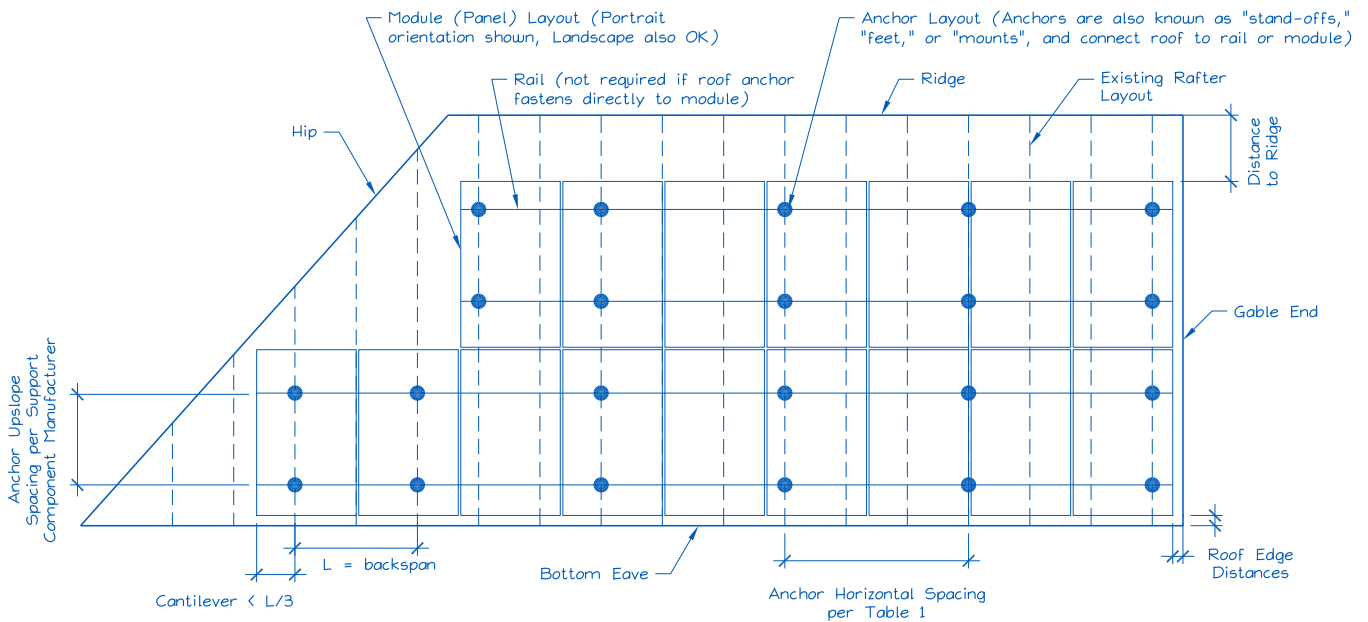

Figure 2. Sample Solar Panel Array and Anchor Layout Diagram (Roof Plan).
E. Is a roof plan of the collector and anchor layout attached? (see Figure 2)
- 1) Proposed anchor horizontal spacing (see Figure 2): _____'-_____'' (ft-in)
- Anchors are also known as "stand-offs", "feet", "mounts" or "points of attachment". Horizontal anchor spacing is also known as "cross-slope" or "east-west" anchor spacing (see Figure 2).